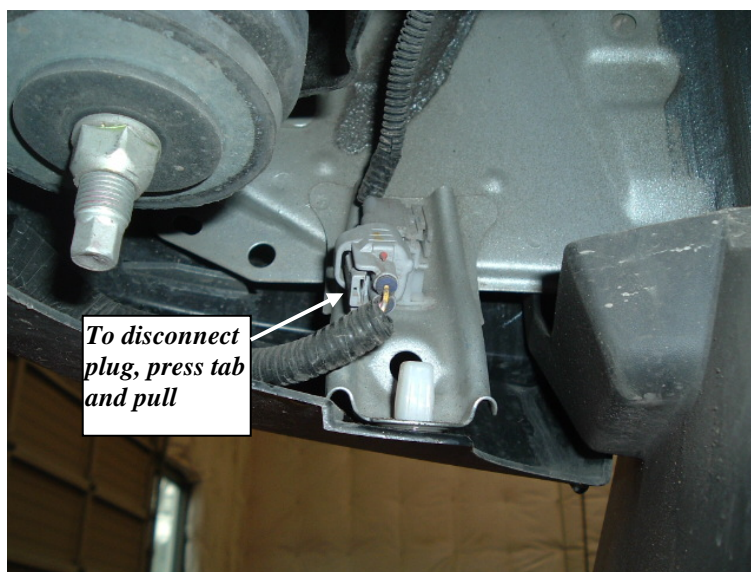

Figure 2 Backup sensor connector, LH shown
1. If the vehicle is equipped with backup sensors disconnect the wire harness connectors under the outside corners of the bumper. Remove electrical trailer plug from the bumper if equipped. **See Figure 2**